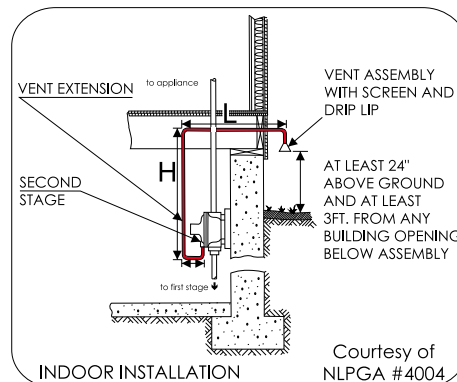

Figure 3
- Keep pipe length of bends to a minimum to prevent eventual loss of capacity compatible with normal valve function. In figure 3 you can find the dimensions to respect the valve's normal function (H = 39 inch; L = 31 inch).